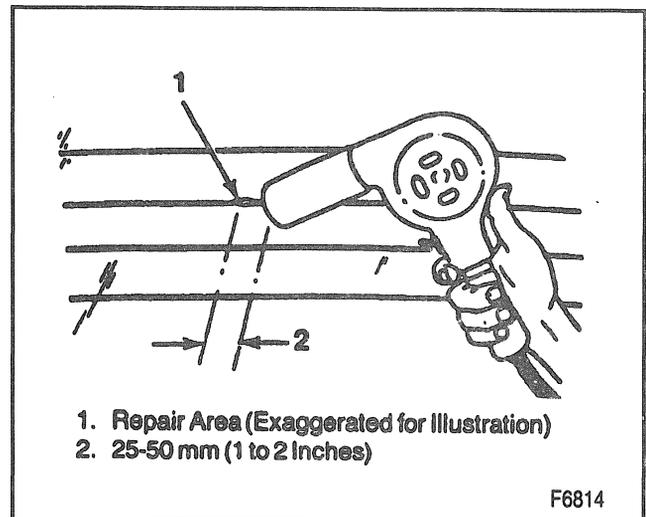

Figure 26—Applying Heat to the Grid Line Repair
4. Holding the heat gun 25 to 50 mm (1 to 2 inches) from the repair area, apply heat at 260° to 370° C (500° to 700° F) for 2 to 3 minutes (Figure 26). If a heat gun is not available, allow the repair to air dry at an ambient temperature of 20° to 39° C (70° to 90° F) for 24 hours.